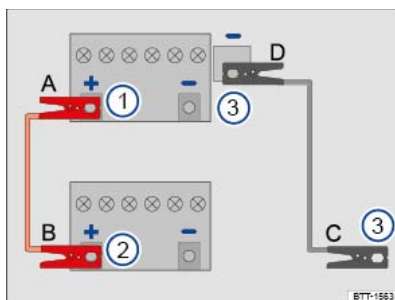
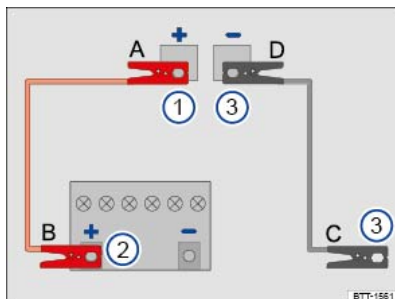

Fig. 217 Diagram for connecting the jump leads (12-volt vehicle battery in the engine compartment).
Fig. 218 Diagram showing how to connect jump leads on the vehicle providing the jump start (12-volt battery in luggage compartment).
Key for  Fig. 217 and  Fig. 218 :
The jump leads should only be connected in the order **A – B – C – D**  Fig. 217 .
- Connect one end of the *red* jump lead to the positive terminal (+) of the vehicle with the discharged 12-volt vehicle battery  Fig. 217   .
- Connect the other end of the *red* jump lead to the positive terminal (+) of the vehicle battery providing assistance ⇒ *Fig. 217* ②.
- On the vehicle with the flat 12-volt battery, connect the other end of the *black* jump lead ⇒ *Fig. 217* ③ preferably to the jump lead connection point (earth connection), or otherwise to a solid metal part that is securely bolted onto the cylinder block, or to the cylinder block itself ⇒ ⚠.
The jump leads should only be connected in the order **A – B – C – D** ⇒ *Fig. 218*.
- Connect one end of the *red* jump lead to the jump lead connection point (positive terminal) (+) of the vehicle with the discharged 12-volt vehicle battery ⇒ *Fig. 218* ① ⇒ ⚠.
- Connect the other end of the *red* jump lead to the positive terminal (+) of the vehicle battery providing assistance ⇒ *Fig. 218* ②.
- On the vehicle with the 12-volt battery providing assistance, connect one end of the *black* jump lead ⇒ *Fig. 218* ③ preferably to the jump lead connection point (earth connection), or otherwise to a solid metal part that is securely bolted onto the cylinder block, or to the cylinder block itself.
- On the vehicle with the flat 12-volt battery, connect the other end of the *black* jump lead ⇒ *Fig. 218* ③ preferably to the jump lead connection point (earth connection), or otherwise to a solid metal part that is securely bolted onto the cylinder block, or to the cylinder block itself ⇒ ⚠.
- When the engine is running, the jump leads should be removed only in the order **D – C – B – A** ⇒ *Fig. 217* or ⇒ *Fig. 218*.